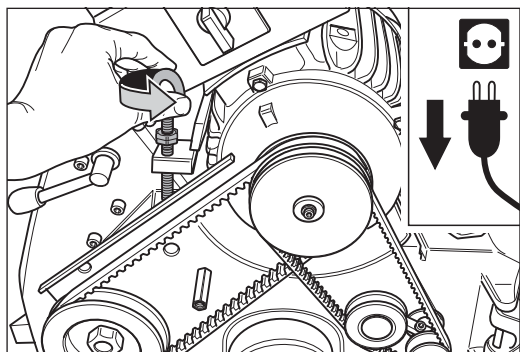

Fig. 59 Release the V-belt tension by loosening the tensioning bolt at the motor.
- 3 Remove the belt guard and release the V-belt tension by loosening the tensioning bolt at the motor (Fig. 59).